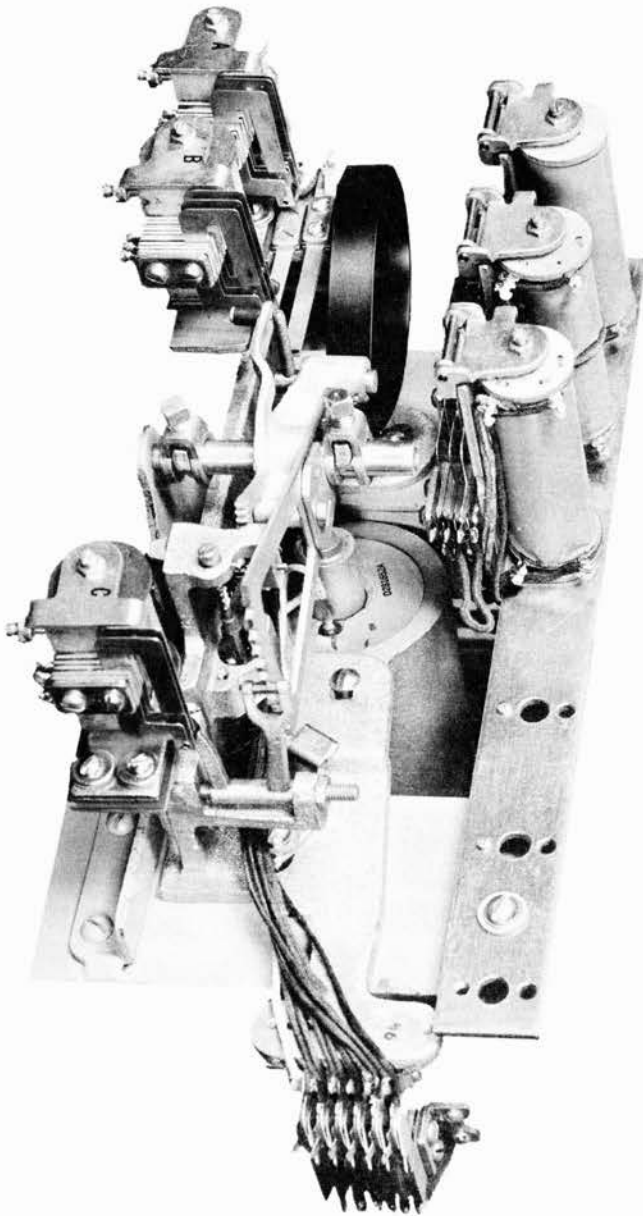

Figure 24. Master switch.
- a. Operate the start relay of the master switch (figure 24) by hand and determine whether the master switch operates smoothly and at proper speed (104 to 112 cycles per minute).